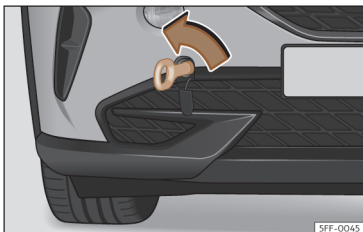

Fig. 45 Right side of the front bumper: towline anchorage in position.
- Screw the towing eye in the housing by turning it as far as it will go **anticlockwise**»» **Fig. 45** »» **!** Use a suitable object that can completely and securely tighten the towing eye in its housing.